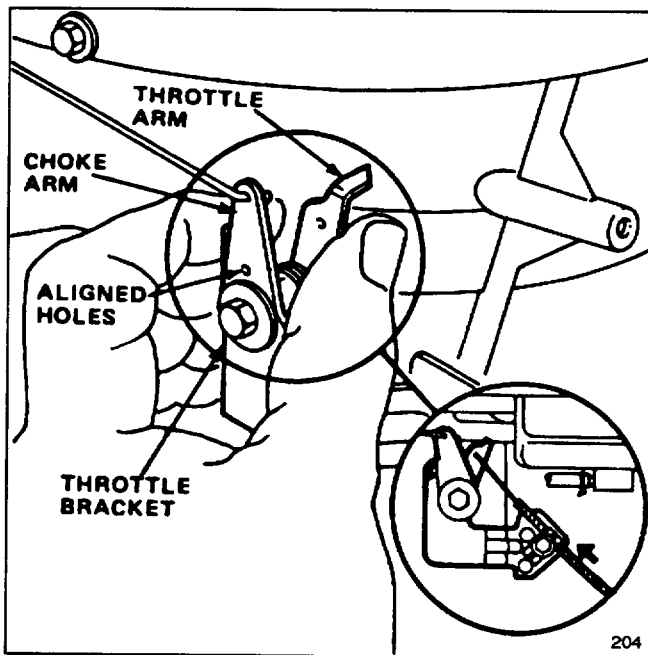

Figure 14
ADJUSTING THROTTLE (Fig. 14)
3. Loosen cable clamp screw until throttle cable slides (Fig. 14). Align holes in choke arm and throttle bracket. A small dia. pin may be inserted into aligned holes to hold adjustment.